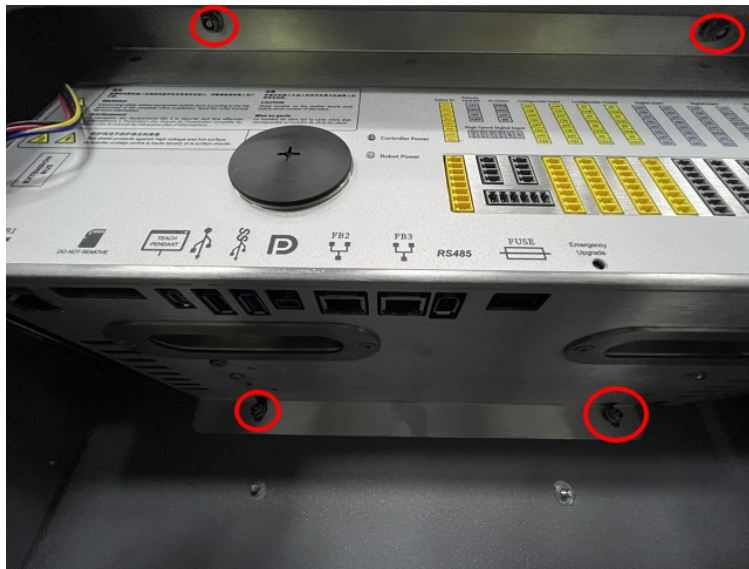

Figure 3-31 : Nut position
10. Put the mounting sheet metal module back into the box, install the module properly with the 4 hexagonal flange side nylon anti-loosen nuts. Make sure the nuts are tightened well as shown in **Figure 3-31** :